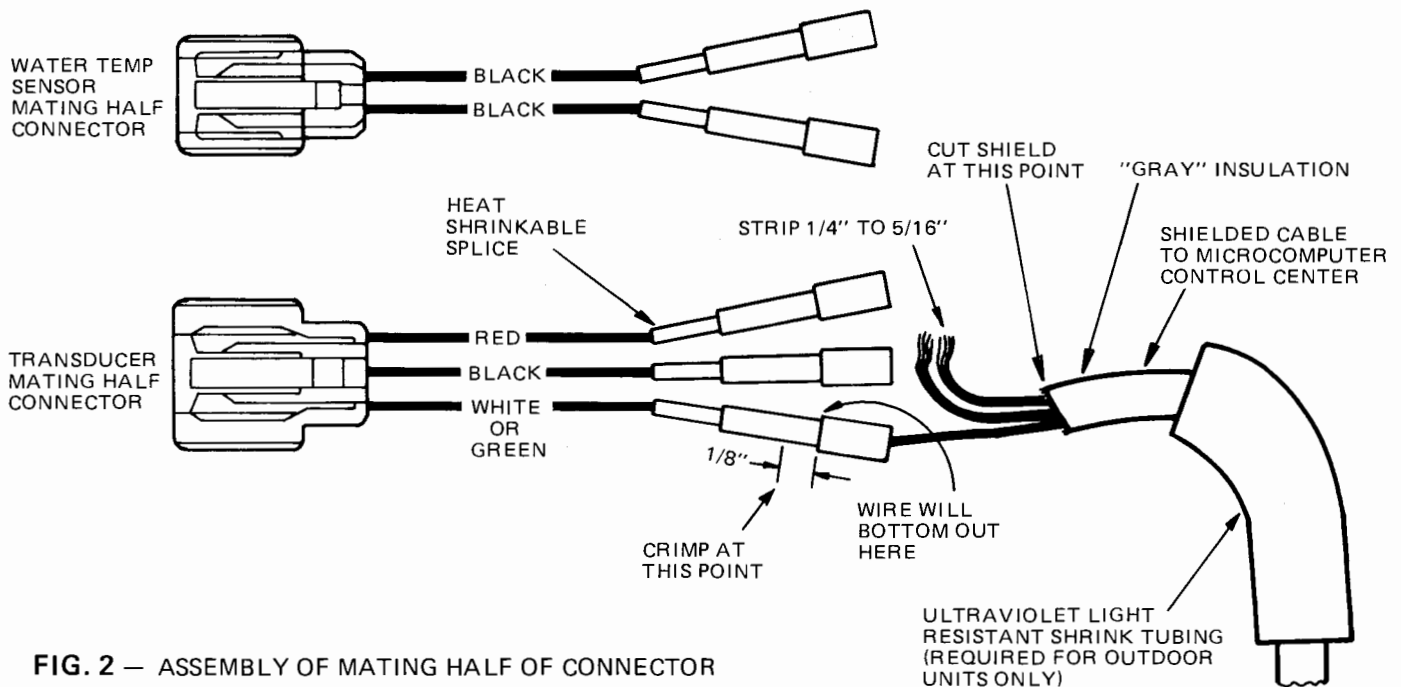
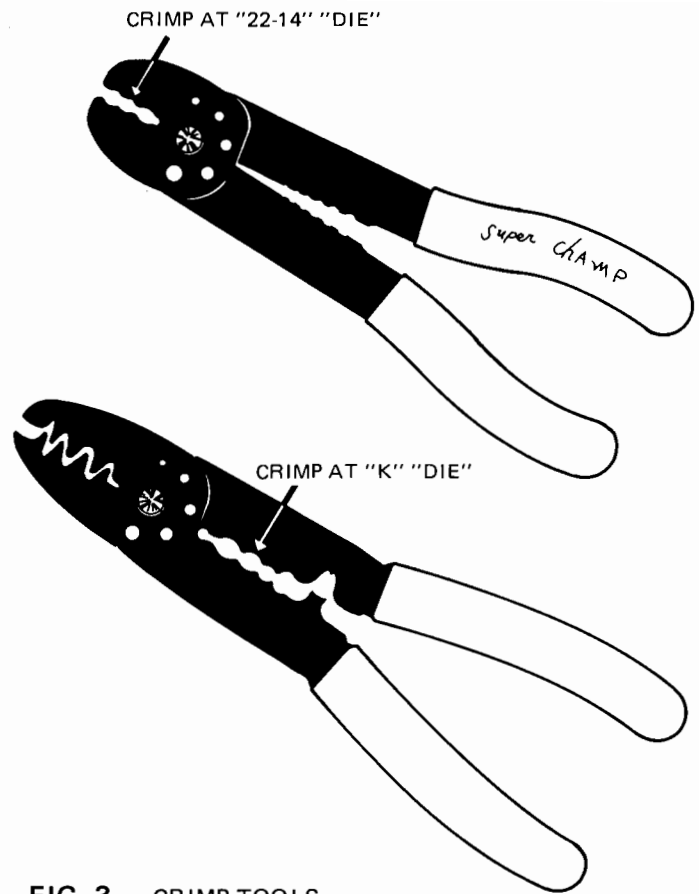

FIG. 2 — ASSEMBLY OF MATING HALF OF CONNECTOR
FIG. 3 — CRIMP TOOLS
3. Slip the black-in-color ultraviolet light resistant shrink tubing onto the shielded cable (See Fig. 2). This must be done before continuing. *NOTE: This is required for outdoor units only.*
4. Strip the wires (3 for a transducer, 2 for a water temp. sensor) so that 1/4" to 5/16" of wire shows (See Fig. 2). Cut the gray insulation back only as far as needed. An inch or two is typical (See Fig. 2). Cut the shield off at the end of the outside gray insulation (See Fig. 2).
5. Match the wire colors to the ones in the mating half of the connector and, one at a time, push the wire in until the insulation bottoms out in the heat shrinkable splice and crimp it where shown in Fig. 2. Use a crimping tool similar to the two shown in Fig. 3 being sure to use the proper "die." Assume that the crimp is tight on the wire without distorting the heat shrinkable splice. Perform this operation for each of the wires.